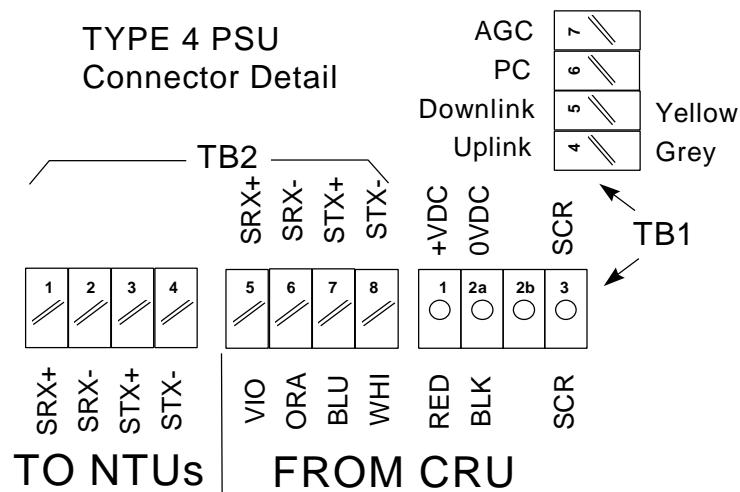

Figure 38. ST-I1 Drop Cable Connections to Type-4 PSU
- At the PSU punch down the wires of the drop cable, to the IDC terminal blocks (TB1 & TB2) using an Auto Trim Termination Tool and connect the DC and screen to the Wago block. The Figure 38 below, illustrates the connections of the drop cable to the connector blocks inside the PSU.